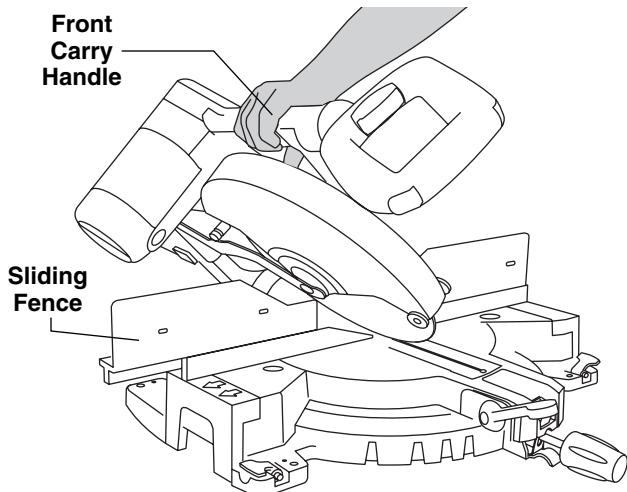

Figure 2.
- a. Extend left sliding fence to clear saw assembly and re-lock (Figure 2).
- c. Grasp the front carry handle with right hand and tilt saw head to angle desired (Figure 2).
- a. Extend right sliding fence to clear saw assembly and re-lock (Figure 2).
- c. Standing on right side of saw, grasp the front carrying handle with right hand and tilt saw head slightly to the left while rotating the bevel range selector knob with left hand to "0-45° Right" (Figure 2).